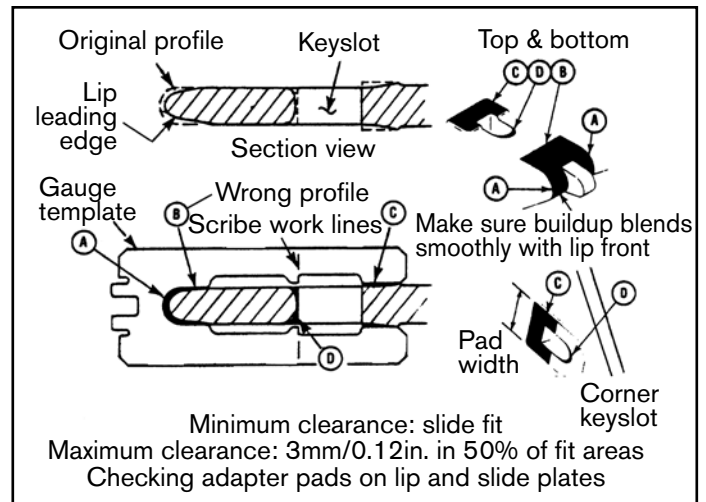

Figure 4
4. Keyslots for corner adapters should also be rebuilt using the procedures described in Step 3. Use a new corner adapter as a guide. The weld-repair template indicates the width of the keyslot pad area C, Figure 4.